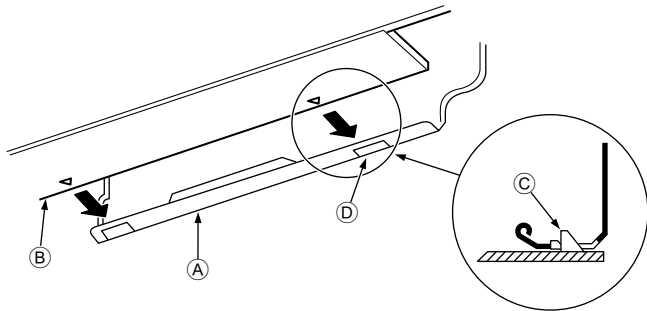

Fig. 3-15
3. While inserting the refrigerant piping and drain hose into the wall penetration hole (penetration sleeve), hang the top of the indoor unit to the mount board ①.
5. Fasten by pushing the bottom part of the indoor unit onto the mount board ①. (Fig. 3-15)